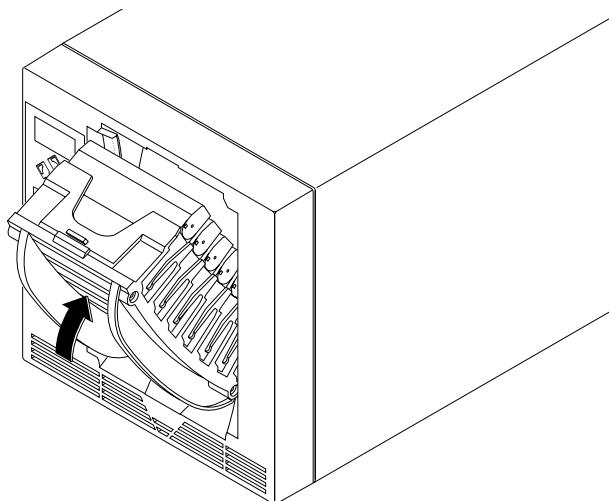

Figure 4-2 *Installing the cartridge magazine*
1. Position the magazine so the bottom mounting guide on the magazine (near cartridge slot 1) aligns with the slot in the bottom of the opening in the autoloader, as shown in Figure 4-2.